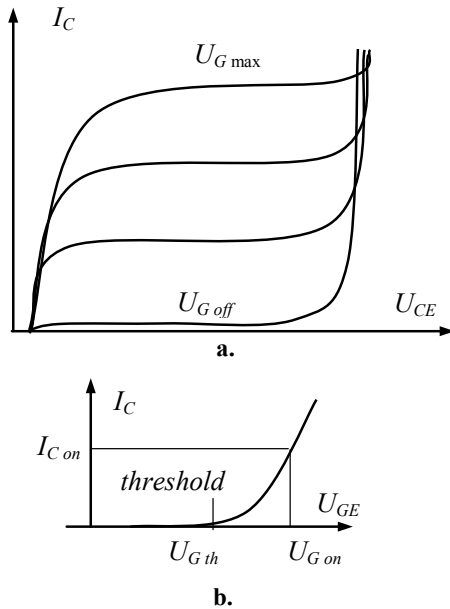

Fig. 1.46
**Characteristics.** The output curves of the  $n$ -channel IGBT and the input characteristic are shown in Fig. 1.46. The output curves are very similar to those of the small-signal  $npn$ -type bipolar transistor. The difference is that the gate signal of the IGBT is the gate voltage rather than the base current as for the bipolar transistors. Accordingly, the current of the input signal of IGBT does not flow through the gate. The transfer curve is identical to that of the power MOSFET. The curve is reasonably linear over most of the collector current range, becoming nonlinear only at low collector currents where the gate voltage is approaching the threshold.